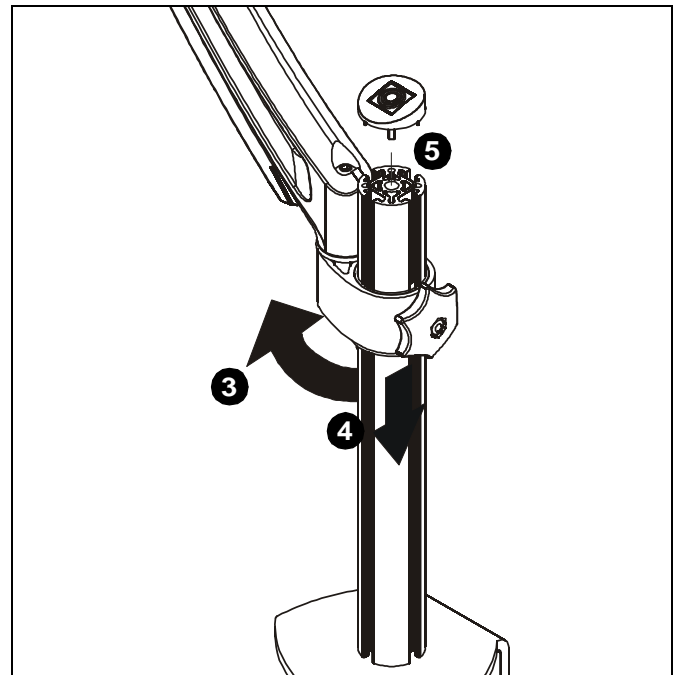

Figure 4
3. Rotate mount in 90 degrees in either direction prior to reinstalling onto column. (See Figure 4)
4. Reinstall onto column and adjust to desired height. (See Figure 4)
5. Reinstall top cap to column. (See Figure 4)